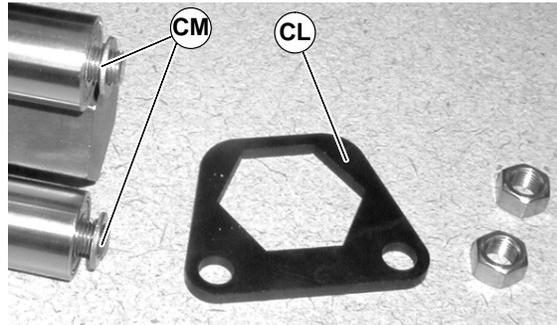

Figure 69
6. Remove support plates (CL of Figure 69) and washers (CM).